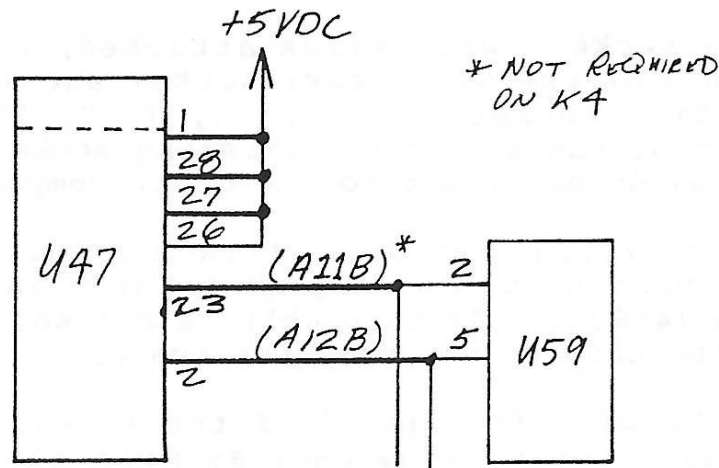

FIG. 1 - Kaypro II & 4 expanded ROM addressing
(1) Remove the existing ROM from socket at U47. If you are using a screwdriver to pry the ROM out, be sure that you have the tip between the chip and the socket, NOT between the board and the socket.
(2) Prepare the new socket by bending out pins 1, 2, 27, and 28. If you have a machine (round) pin socket, trim these pins back so that they are shorter, but still long enough to solder to (about 1/16"). Pin 1 is on the end of the socket marked with a notch, and is generally labeled. See Figure 1.
- (3) If you have a Kaycomp or Kaypro II, bend out or trim back pin 23 of the socket and attach a wire about 2" long to this pin (you do NOT have to do this if you have a Kaypro 4). Place a small piece of tape over this pin if necessary to insulate it from the existing socket. This is the All address signal.
- (4) Solder a short jumper(s) between pins 1, 26, 27, and 28 of the socket. This will give +5v to these pins.
- (5) Attach a wire about 3" long to pin 2 of the socket. This will be the A12 address signal.
- (6) Plug the socket, with wires attached, into the existing socket. Pin 3 of the piggy-back socket should fit into pin 1 of the existing socket. Four pins, 1, 2, 27, and 28 should hanging out past the end of the existing socket. Check to make sure that they do not short to any other components.
- (7) Remove the 74LS373 at U59. Attach a small drop of solder to the wide portion of the leg near the plastic on pin 2 and pin 5 on the 74LS373. If this chip is not socketed, carefully do this to the chip on the computer board.
- (8) Attach the wire from pin 2 of the socket to pin 5 of the 74LS373. Attach the wire as near as possible to the plastic, and be careful not to short it to any other pins.
- (9) Attach the wire from pin 23 of the socket to pin 2 of the 74LS373. (Not used on the Kaypro 4.)
- (10) Reinstall the 74LS373 in its socket. All pins should be firmly installed.
- (11) Plug the KayPLUS ROM into the piggy-back socket.
- (12) Remove the 74LS138 at U60 from its socket.